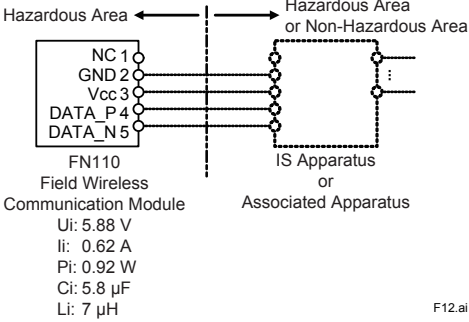

Figure 6.1 Control Drawing, IIE023-A71 for ATEX Certification
- Installation should be in accordance with local installation requirements. (Refer to “Figure 6.1 Control Drawing for ATEX Certification”